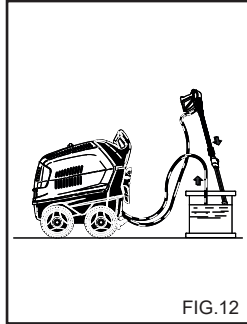

FIG.12
**FREMANGSMÅTE VED BRUK AV DEFROSTER (fig. 12)**